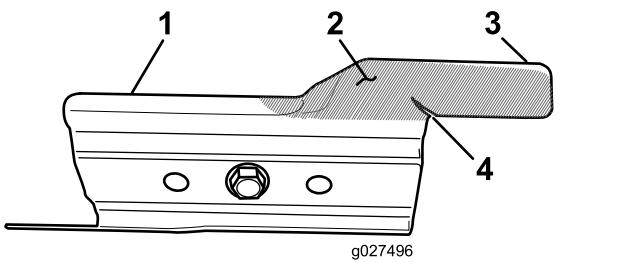

Figure 30
Carefully examine the accelerator for excessive wear (Figure 30). Because sand and abrasive material can wear away the metal (especially in the area shown as item 2 in Figure 30), check the accelerator before using the machine. If you notice that a tab on the accelerator has been worn down to a sharp edge or there is a crack, replace the accelerator; refer to Removing the Blade \(page 26\).